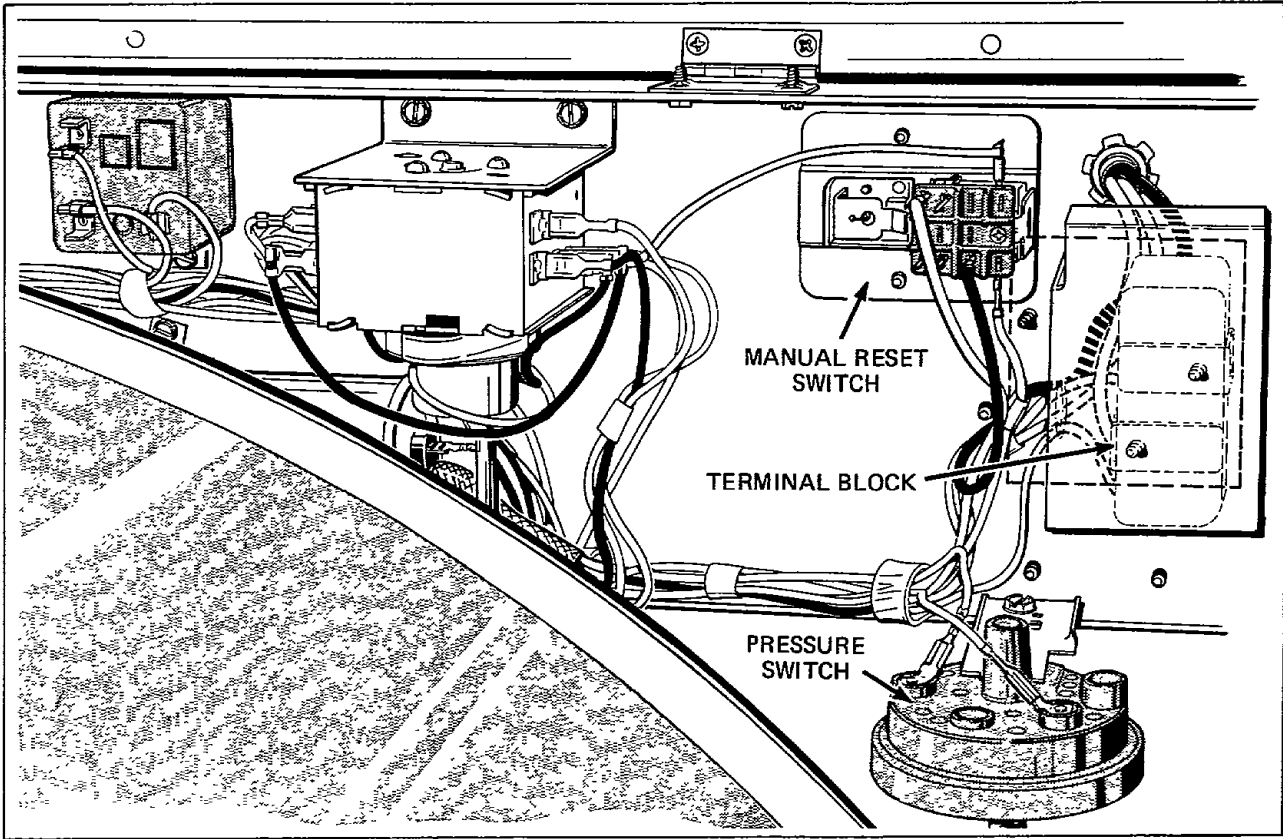

Figure 22
## 21. PRESSURE SWITCH (Refer to Figure 22)
**22. MANUAL RESET SWITCH – Through Serial Number 592J8 (Refer to Figure 22)**